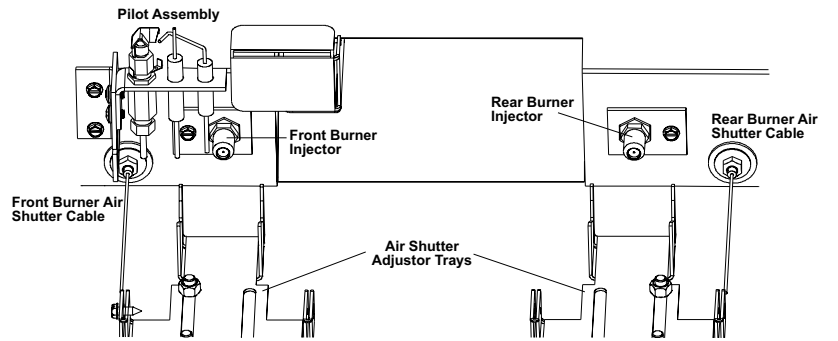

Figure 2. Fuel Conversion Components.
3. **RETRACT THE AIR SHUTTERS:** Locate the Air Shutter cable on the floor in each side compartment - push each fully in. This action retracts the shutters and allows the burner to be disengaged from the firebox. See figs. 2 and 3.
5. **CHANGE THE BURNER INJECTORS:** Use a 1/2" open end wrench or deep-well socket to remove the burner injectors from the brass fittings at the rear of the firebox. See fig. 2. Install the injectors from this conversion kit into the appropriate left and right locations and tighten securely.